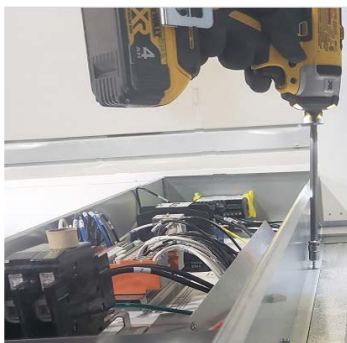

Fig. 84 Secure electrical junction box
3. Secure the electrical box to the case body using (4) #8 tek screws (Fig. 84).